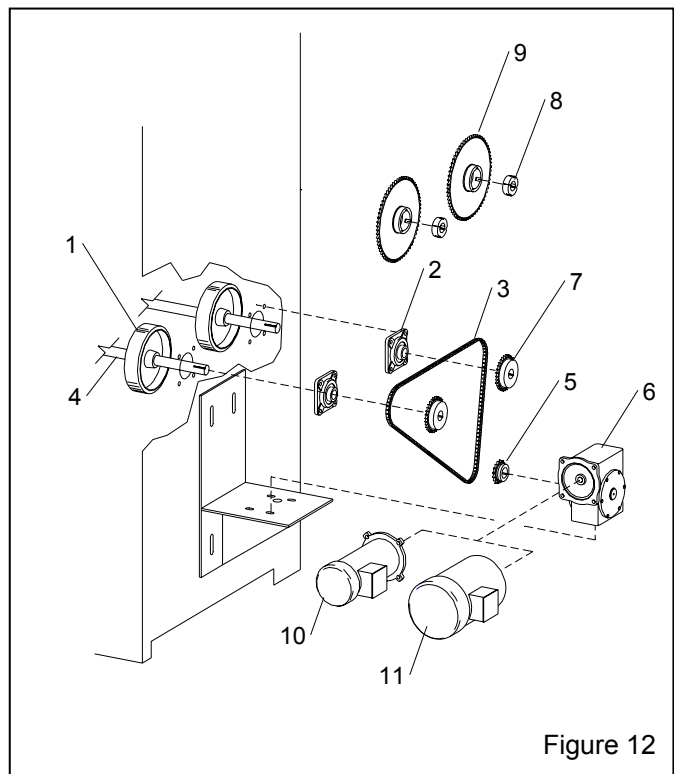

Figure 12
9.5 Drive Mechanism, Figure 12